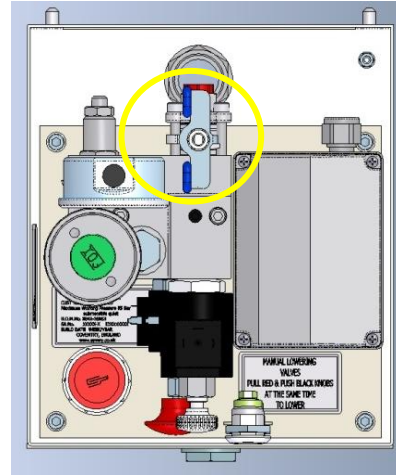

Fig 11.1 – Shut-off valve
3. Close the hydraulic shut-off valve located in the powerpack (see Fig. 11.1).
3. Close the hydraulic shut-off valve located in the pump unit (see Fig. 11.1). This is essential to prevent inadvertent movement of the lift.